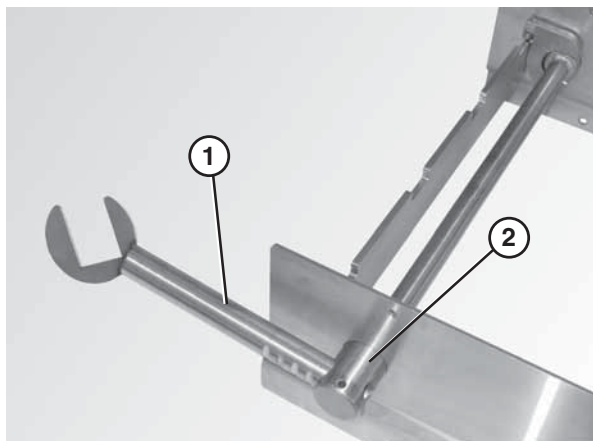

Figure 20
3. Attach the nose bar idler shaft hands (**Figure 20, item 1**) to the tip up shaft (**Figure 20, item 2**).